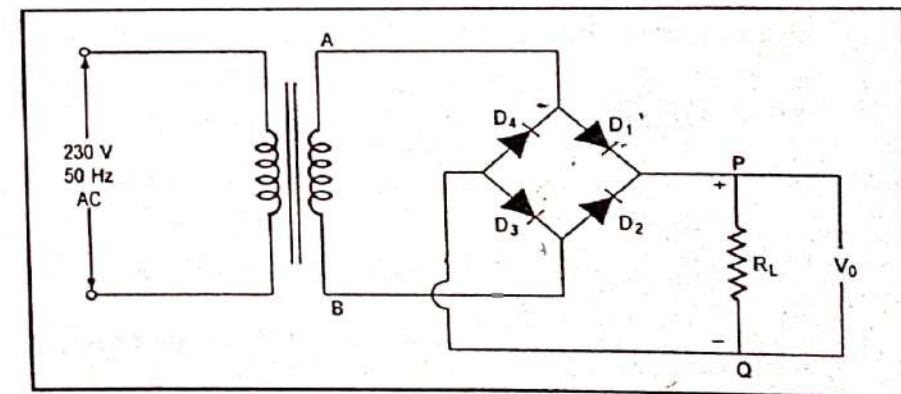

FIGURE 3.7 : Circuit Diagram of Bridge Fullwave Rectifier
Fullwave operation can be obtained even without the centre tapped transformer in bridge rectifier. It contains four diodes  $D_1$ ,  $D_2$ ,  $D_3$  and  $D_4$  connected from bridge as shown in Fig.3.7 Alternating voltage is applied to the diagonally opposite ends of the bridge through the transformer. Between other ends of the bridge the load resistance  $R_L$  is connected.
d.c Power : The output current is pulsating direct current. Therefore in order to find the d.c power average current has to be found out. From the Figure 3.7 and 3.8. We can observe that the current  $i$  is a unidirectional current.
Referring to Fig.3.7, when end  $A$  is positive, diode  $D_1$  conducts where as diode  $D_2$  does not conduct. By studying the circuit  $A D_1 D_2 B$  it is easy to see that whole of the secondary voltage is applied in the reverse direction across  $D_2$ . Hence *PIV* of each diode is equal to the maximum secondary voltage.